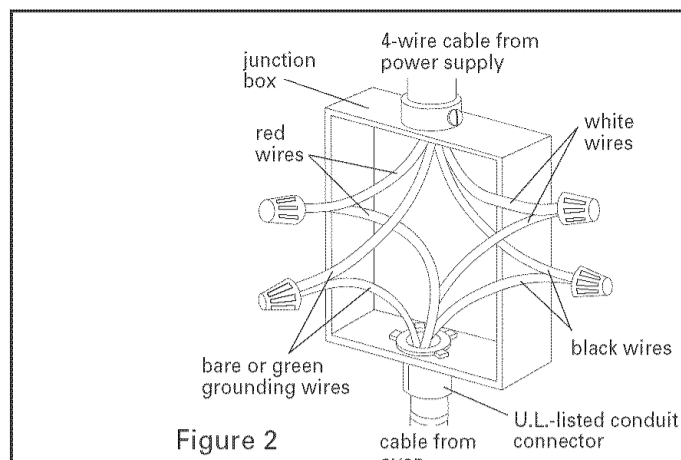

Figure 2
7. Connect white oven cable wire to neutral (white) wire in junction box. See Figure 2.
8. Connect the bare or green grounding oven cable wire to a grounded wire in the junction box. See Figure 2.
8. Connect the bare or green grounding oven cable wire to the green grounding wire in junction box. Do not connect bare or green grounding wire to neutral (white) wire in junction box. See Figure 2.